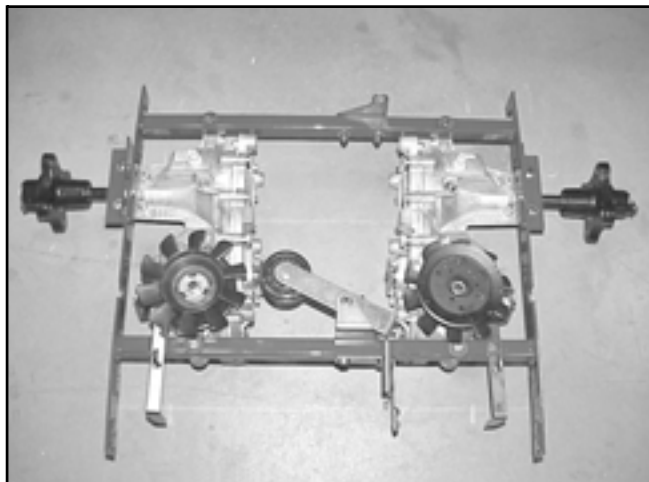

Figure 37
12. Hydro mount frame and the two transaxles removed from the frame of the unit (Figure 37).